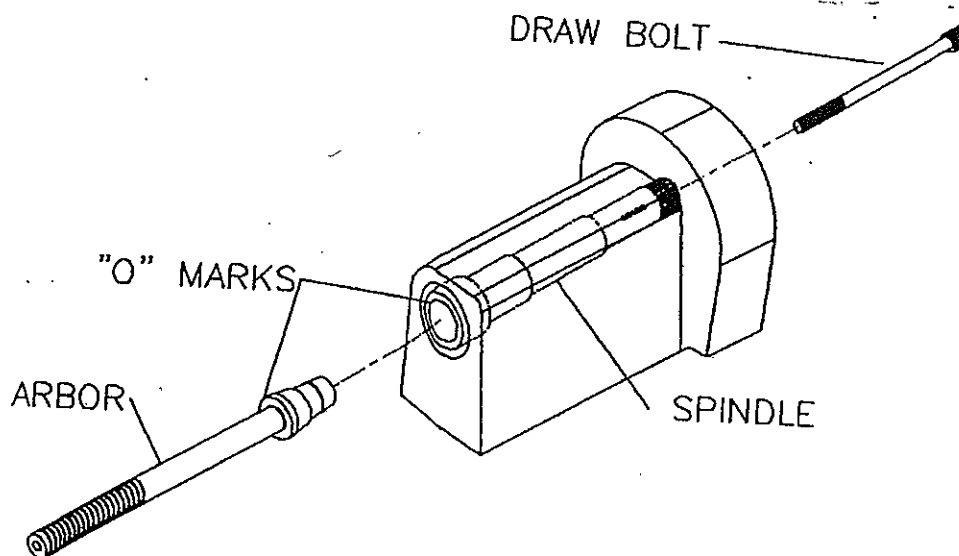

Fig.10
- Loosen the draw bolt three or four turns using W221 wrench. See Fig.10.
- Slide the arbor into the spindle. Align the "O" marks on both until they are in line with each other as shown in Fig.10. Tighten the draw bolt.